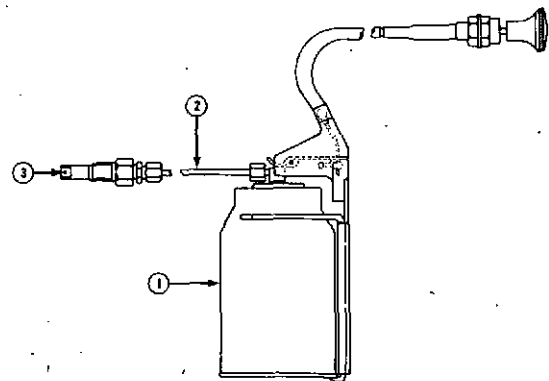

Fig. 2-4, V11469. Starting fluid spray application
Spray nozzle assembly consists of a control knob operated from cab, a flexible cable and cable housing attached to container, bracket mounted on fire-wall (1, Fig. 2-4). Pulling knob, in cab, releases spray through a small plastic hose (2) into spray nozzle (3) located in intake crossover connection. Small orifice holes in spray nozzle must be positioned to allow fluid to spray into both left-bank and right-bank intake manifolds.